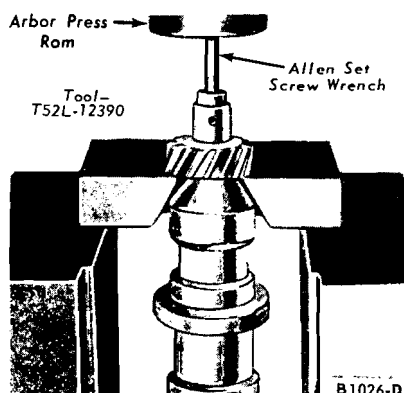

FIG. 5—Gear Removal
11. Press the gear off the shaft (Fig. 5). Slide the distributor shaft out of the body.